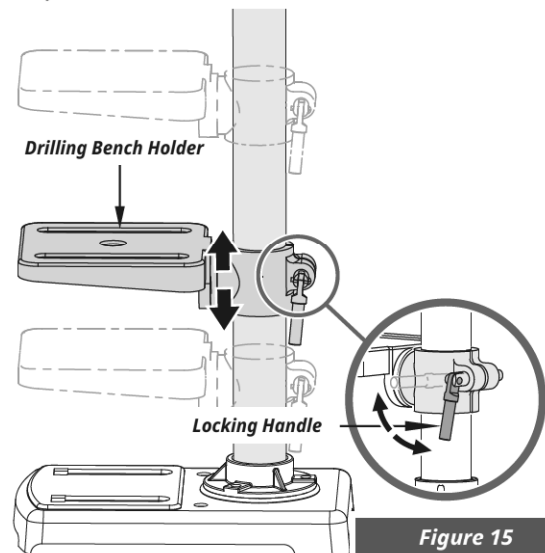

Figure 15
4. Fasten the drilling bench again with the locking handle. ( See Figure 15 )